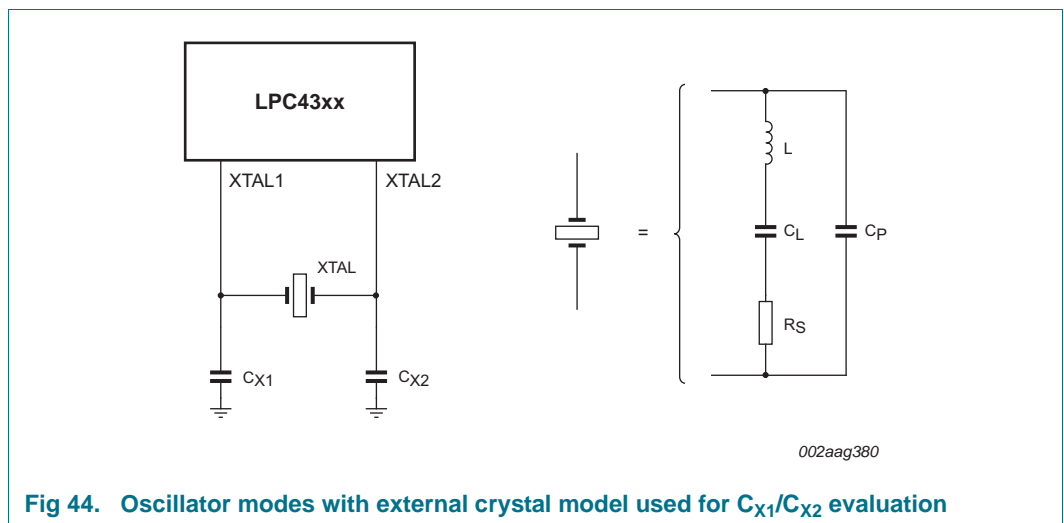

Fig 44. Oscillator modes with external crystal model used for C_{X1}/C_{X2} evaluation
- External components and models used in oscillation mode are shown in Figure 44, and in Table 45 and Table 46. Since the feedback resistance is integrated on chip, only a crystal and the capacitances C_{X1} and C_{X2} need to be connected externally in case of fundamental mode oscillation (L , CL and RS represent the fundamental frequency). Capacitance C_P in Figure 44 represents the parallel package capacitance and must not be larger than 7 pF. Parameters FC , CL , RS and CP are supplied by the crystal manufacturer.